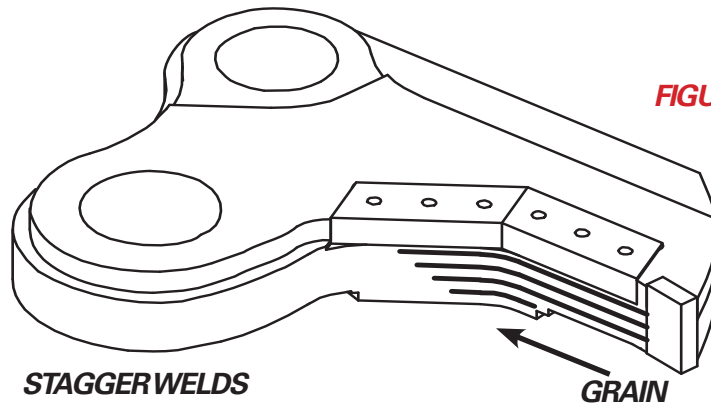

FIGURE 7-45
9. To hardsurface the area, from behind the piercing tip to approximately the midpoint to the primary blade, apply three or four beads of AWS E7018 in single passes running the length of the jaw to establish the hardsurface pattern (see Figure 7-45). This will serve as an underlayment for the hardsurface rod. **DO NOT** apply hardsurface directly to the parent material. Apply a bead of Amalloy 814H rod or equivalent on top of each of the underlayment beads. It is important to use an air operated slag peener on each pass of weld to relieve stress.